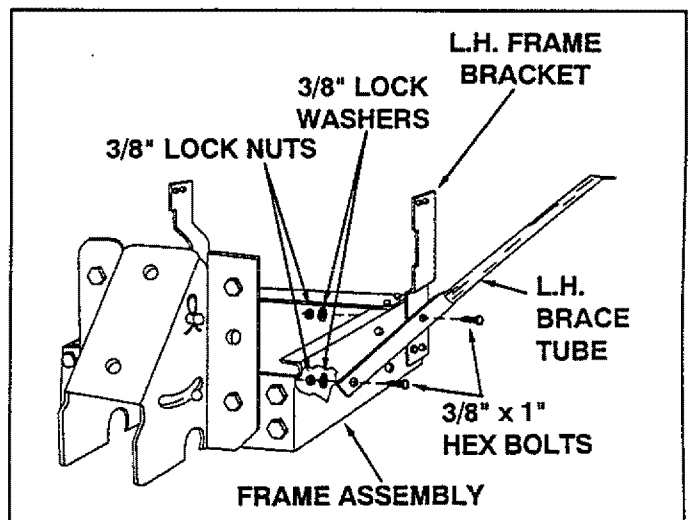

FIGURE 15
- Attach the L.H. brace tube to the outside of the frame assembly as shown in figure 15. Fasten through the aligned upper front hole in frame bracket and through bottom front hole in frame assembly using two 3/8" x 1" hex bolts, lockwashers and lock nuts. Repeat for R.H. side. When properly assembled the handle brace tubes will angle up and out. **Do not tighten.** See figure 15.